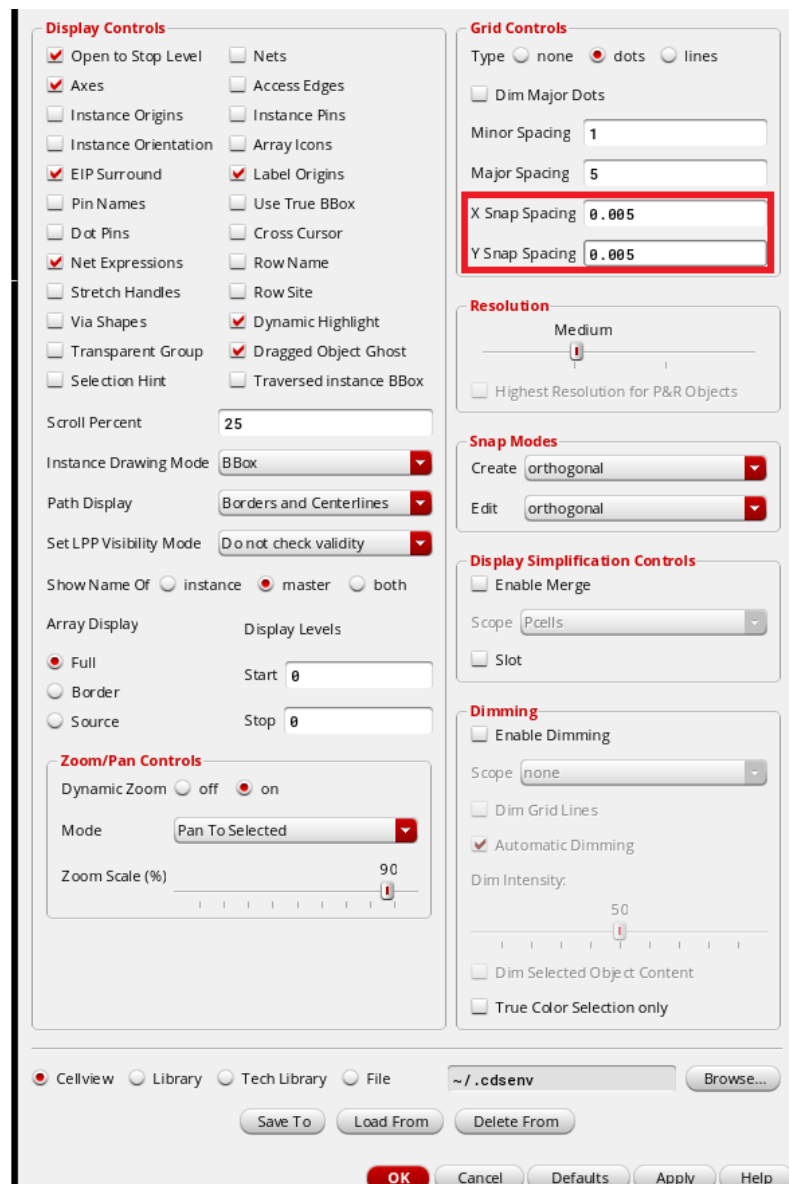

Figure 15: Settings for layout window
- The first thing you should do after starting the layout is to fix the grid sizing. Go to *Options > Display*, or press the "E" key which is the shortcut for that, and the options window (Fig 15) will pop up. The *X/Y Snap Spacing* parameter is a foundry limitation resulted from the ability to place masks on the wafer, if you make a smaller grid, probably when you check DRC of the layout you will find lots of errors about 'offgrid', if you don't correct this errors the foundry will refuse your fabrication order. The base unit of length in Virtuoso is 1um. The default value of 0.005 (5nm) is fine. Later you may want to adjust the grid spacing as well to help you design layout for our technology. Click "OK" to save your changes or just keep the defaults.